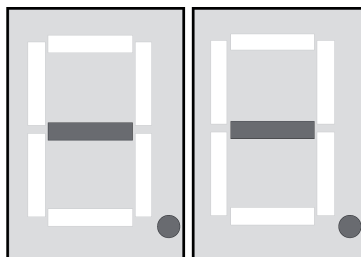

Figure 9: Display „- -“ – deletion of a radio transmitter
- Press **Enter** button (9) for approx. 3 seconds.
The display (13) shows „- -“ (Figure 9). The radio transmitter is deleted from the memory for this radio channel.